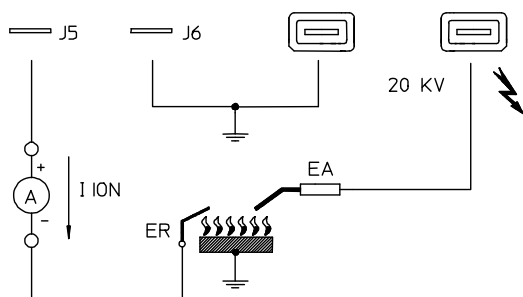

Fig.4
- The level of the flame signal is sufficient, see Fig. 4 for the measuring test;